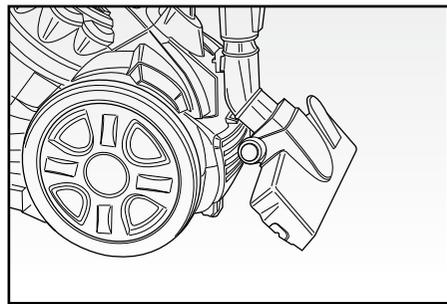

Fig. 5
Put away the appliance, placing the floor brush (L) on the special hook in the back (Fig. 5).